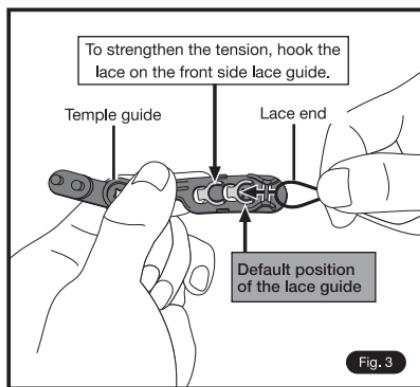

Fig. 3
*At the both end, mount hole positions are different by helmet size. Fig. 3